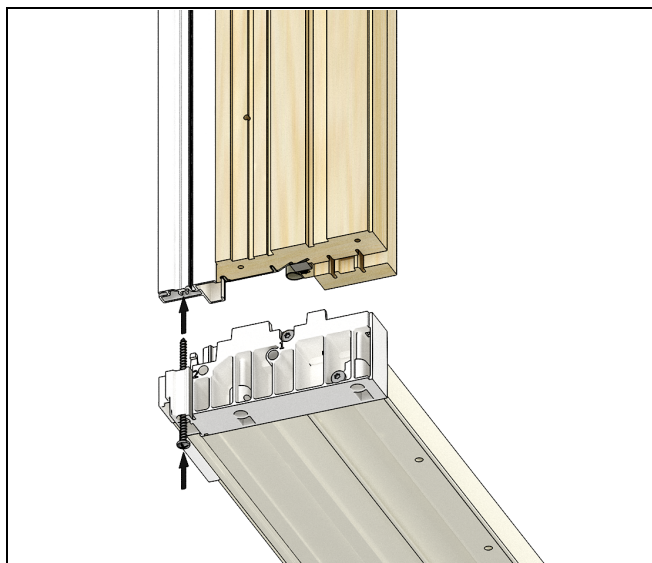
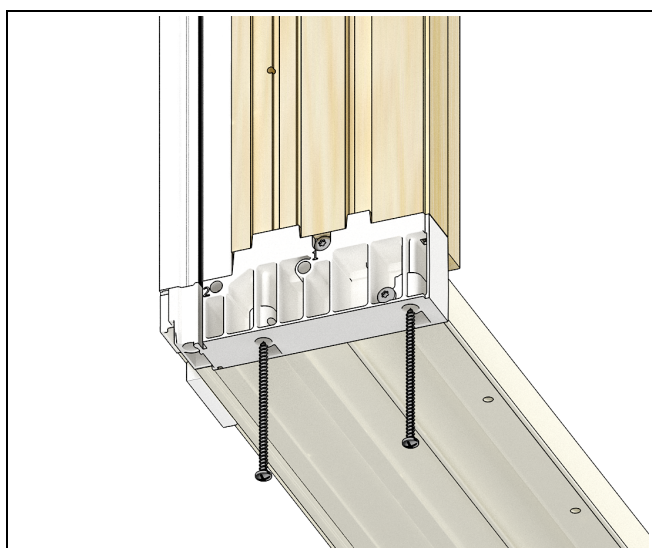
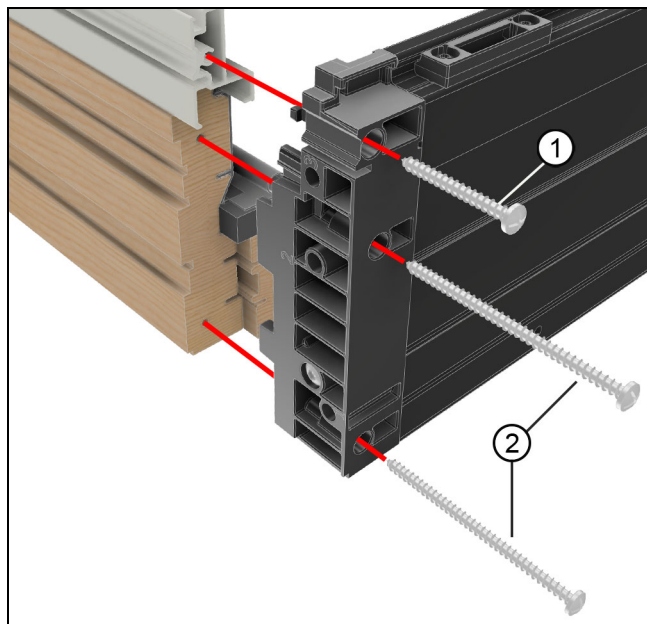

Figure 1 Performance sill
Figure 2 Performance sill
Figure 3 Accessibility sill
1. Align jamb sub assembly into sill key until fully seated. Once seated, use #8 x 1-1/2" pan head screw through the sill key into the jamb cladding. Use two #8 x 3" pan head screws to screw through the sill key into jamb wood. For performance sills, see Figure 1 and Figure 2. For Accessibility sill see Figure 3.